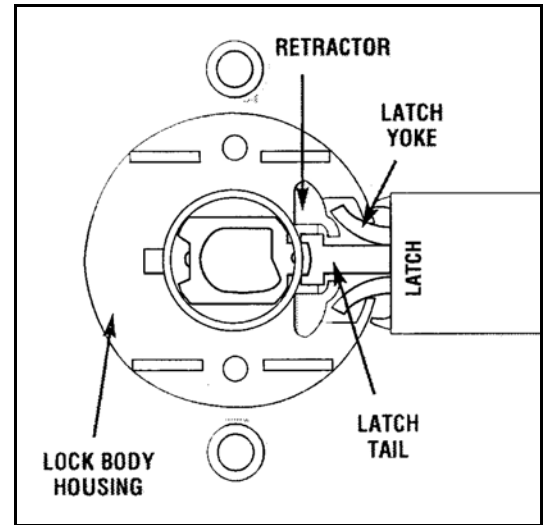

FIG. 8: VIEW FROM INSIDE OF DOOR
- Insert outside lock body into door and be sure to properly engage the lock body with the latch as shown in Fig. 8.